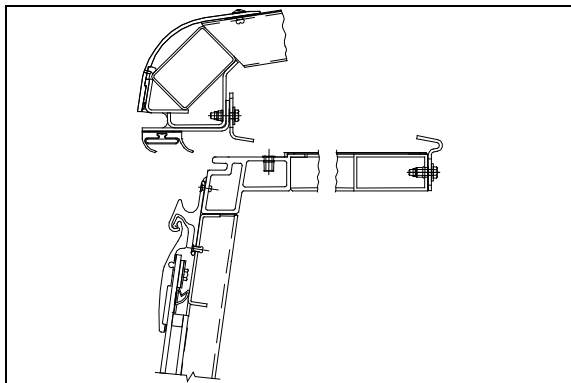

FIGURE 33 : SLIDE-OUT 2" INSIDE – UPPER PART
4. Turn the ignition to the off position. Using the manual override procedure, move the slide-out 2" inside the vehicle, so the seal is accessible from outside (figure 33).